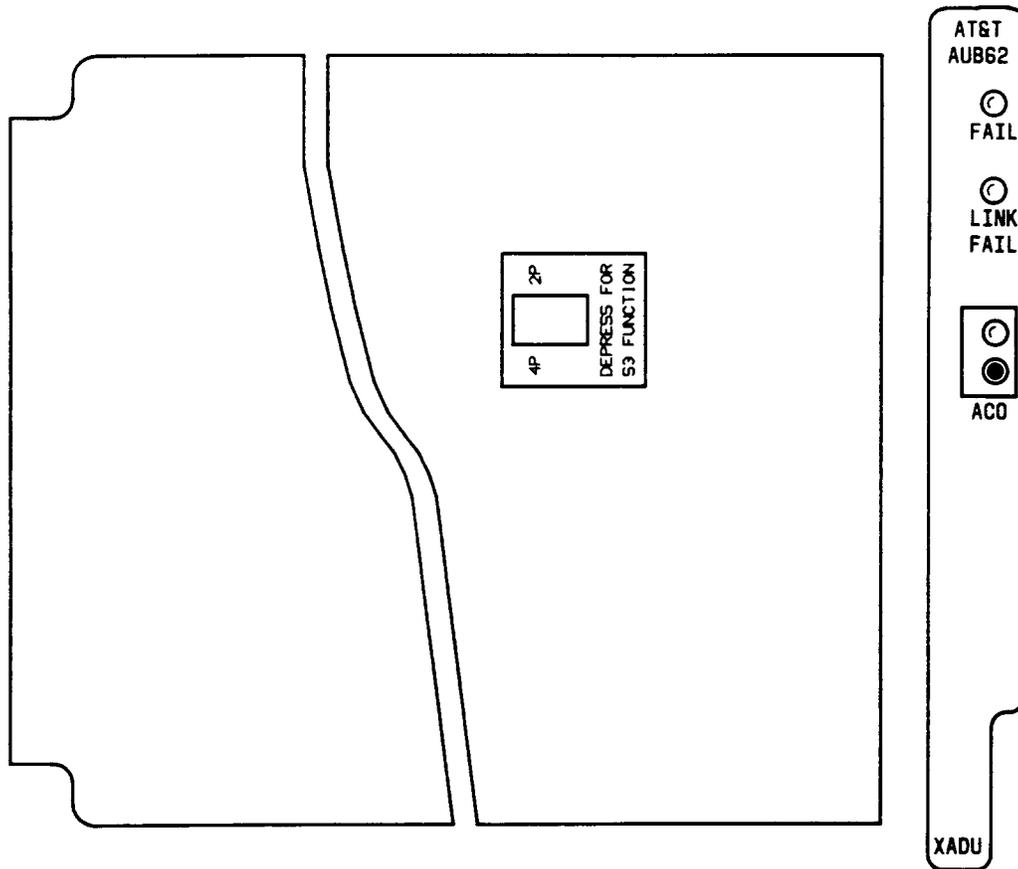

Figure 16 — XTC Alarm Display Unit (AUB62)
2.33 Mounted on the faceplate of the XADU circuit pack (Figure 16) are:
2.34 A DIP (dual in-line package) option switch is also located on the component side of the circuit board (Figure 16). This switch is used to provision the XTC for either 2- or 4-party ringing.